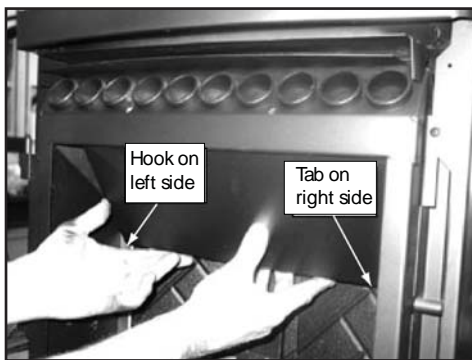

Figure 37.1
2. The top baffle has a hook on the bottom left side that rests on the top lip of the cast brick. There is a tab on the bottom right side that hooks into the side bracket. Remove the top baffle by first pulling the baffle forward until back edge drops down. Then slide baffle back until the front edge clears the shelf that it had been resting on. **Figure 37.1.**
3. Lift slightly and pull the right edge of the brick forward until it stops and then drops down into both top and bottom notches of right bracket and locks into place. **Figures 37.1 and 37.2.**